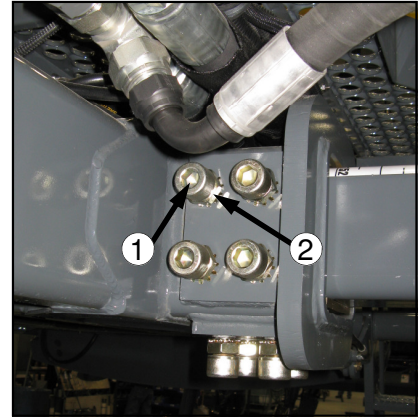
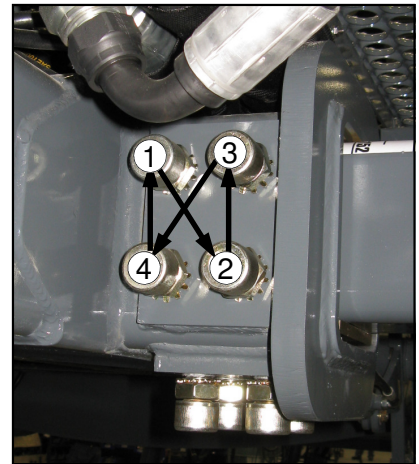

FIG 7.96-1
FIG 7.96-2
LEG BEARING TORQUE- With the engine turned off, visually inspect the tread bearing bolts on both the bottom and the side (fig. 7.96-1) every 50 hours. Torque check them every 100 hours.
1. Loosen the jam nut (fig. 7.96-1, item 2) on each bearing bolt.
2. Using an “X” pattern (fig. 7.96-2) verify current torque on each bolt (fig. 7.96-1, item 1) is equivalent to last check from 100 hours previous. Repeat torque pattern a second time.